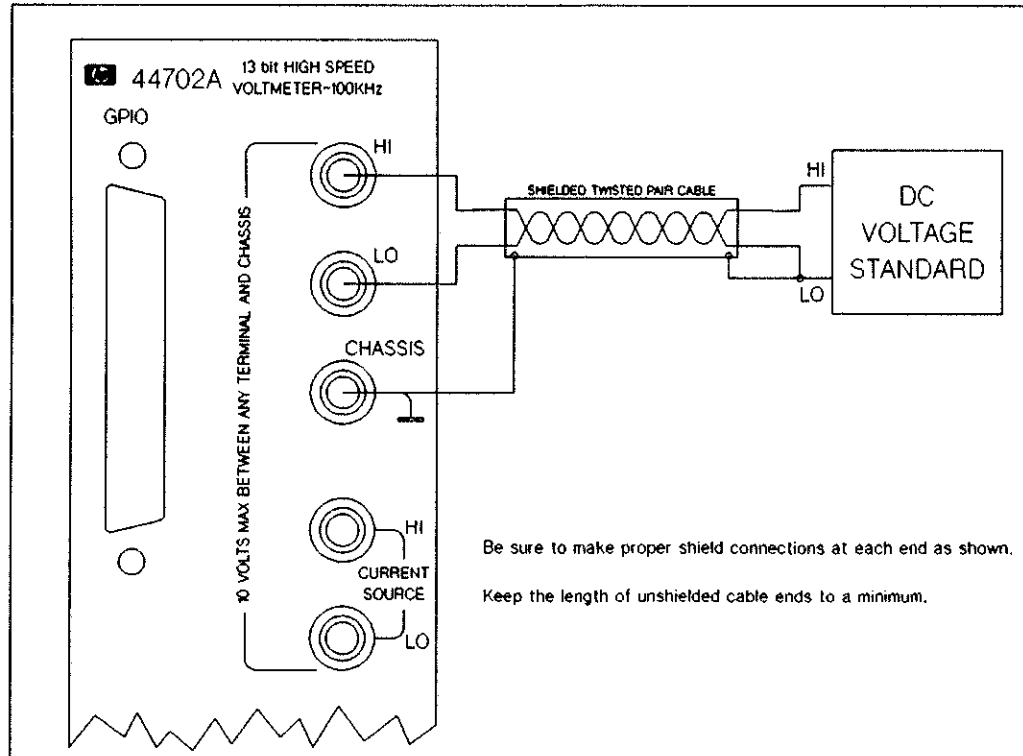

Figure 7-5 DC Voltage Gain Test Connections
12. Set the DC Voltage Standard output to +300 mV. Then connect the DC Voltage Standard to the rear HI and LO Input Terminals of the HP 44702A/B High Speed Voltmeter accessory. The connections are shown in Figure 7-5. Make sure shielded twisted pair cables are used for the connections as shown in the figure.
2. Set the dc voltage source output to +28 mV. Then connect it to the HP 44702A/B HI and LO Input Terminals. The connections are shown in Figure 7-5.